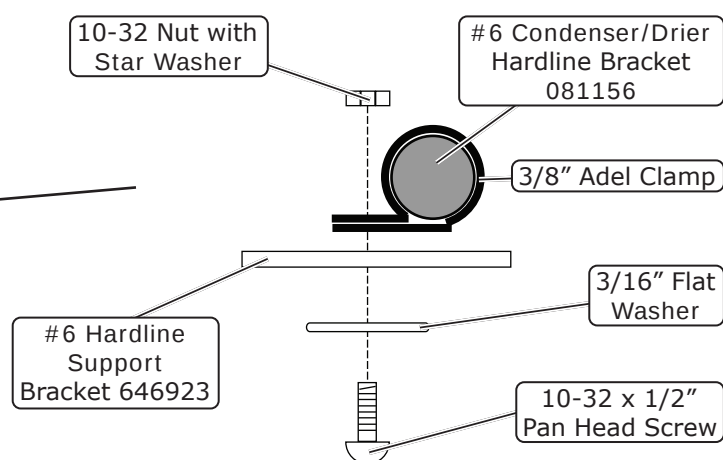

Figure 3
9. Install a 3/8" Adel clamp onto the #6 condenser/drier hardline and secure it to the #6 hardline support bracket using a 10-32 x 1/2" pan head screw, a 3/16" flat washer and a 10-32 nut with star washer (See Photo 11, and Figure 3, below).